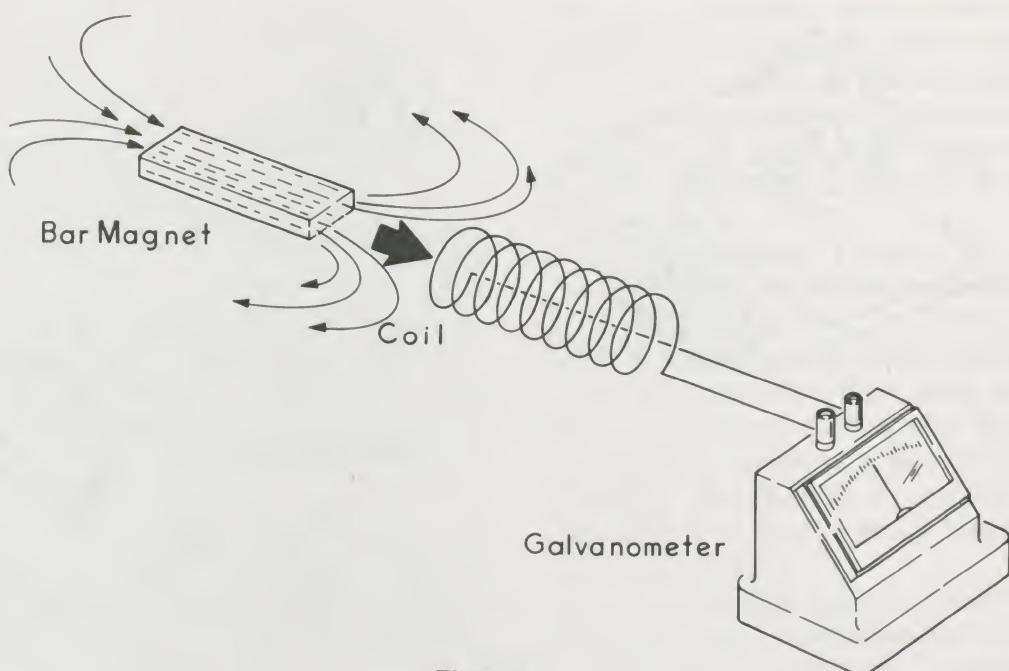

Figure 12.
- The arrangement for this investigation is shown in Figure 12. The *galvanometer* is a device which indicates an electric current and the direction of that current. Place the bar magnet inside the coil. When the magnet is stationary, what is the current reading through the galvanometer?